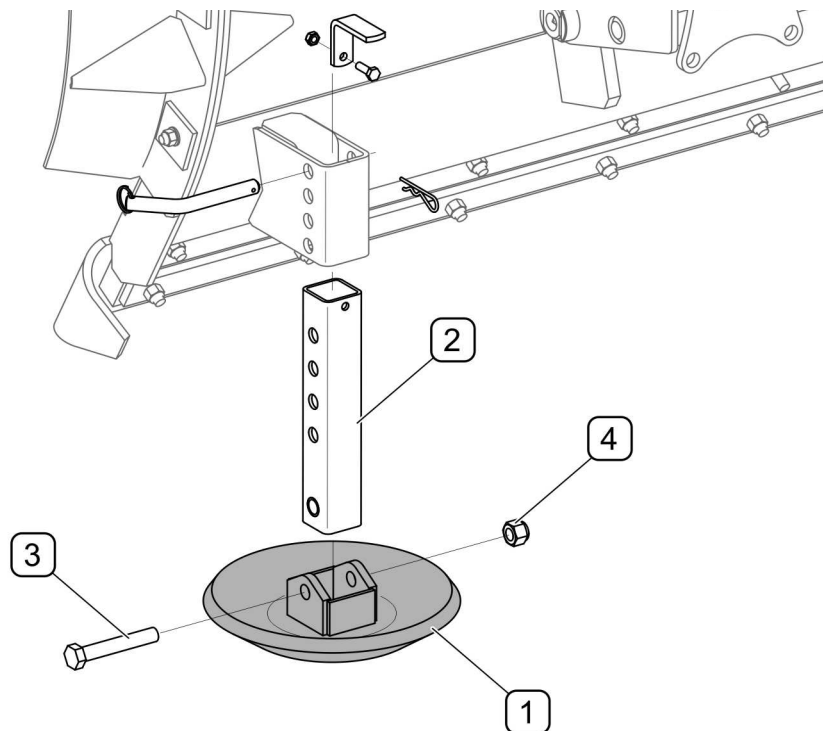

FIGURE 5.6 Slide replacement
(1)-slide; (2)- slider; (3)- bolt; (4)- nut;
Excessively worn or damaged slides must be replaced (FIGURE 5.6). In order to do this raise the plough and support with sufficiently stable and strong supports. If the plough is hitched and raised on the front three-point linkage, protect it from falling and immobilise the tractor (turn off the engine and engage the parking brake.) Undo the nut (4), remove fixing bolt (3) of the slide (1) with slider (2). Check the slide and other elements for damage or excessive wear. The list of slide working components including catalogue numbers is shown in TABLE 5.3